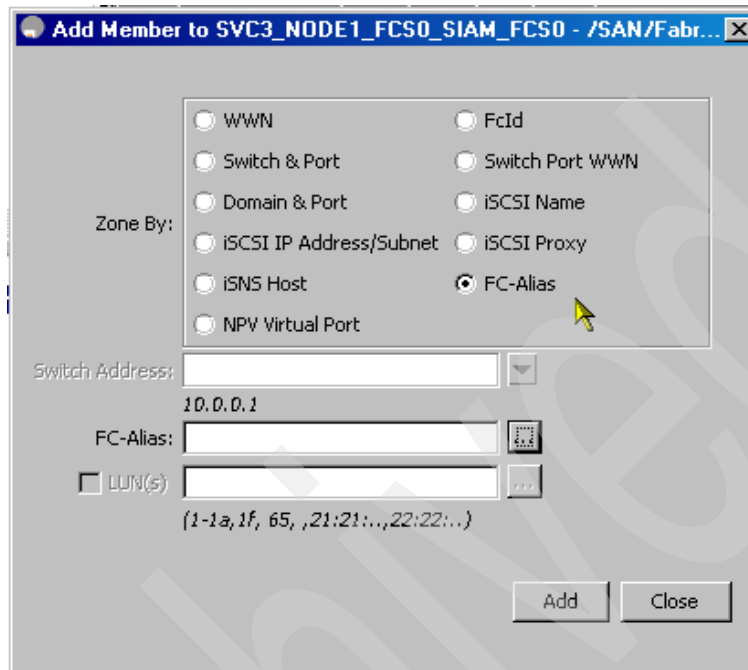

Figure 6-60 Selecting FC-Aliases to list
4. Select **FC-Alias** to add as members and then click the select devices icon to list available aliases, as shown in Figure 6-60.